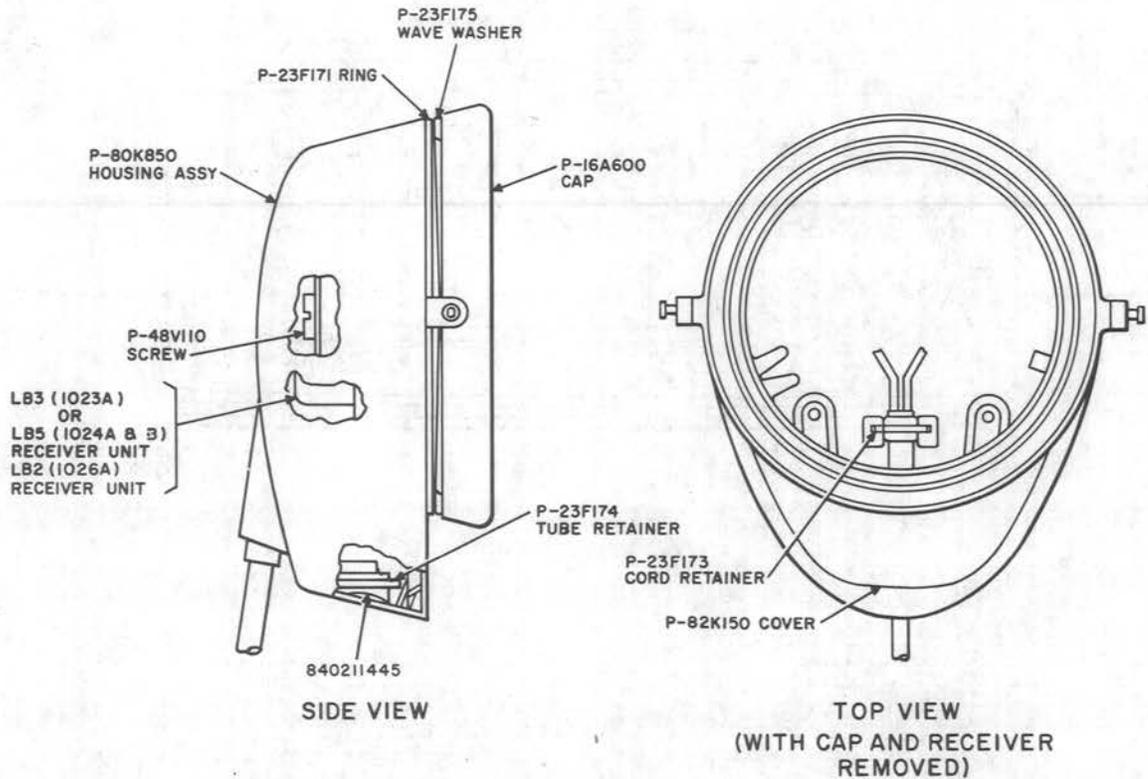

Fig. 5—Housing Assembly Cap and Receiver Unit
3.03 *Receiver Unit:* Fig. 5—To replace the receiver unit, proceed as follows.